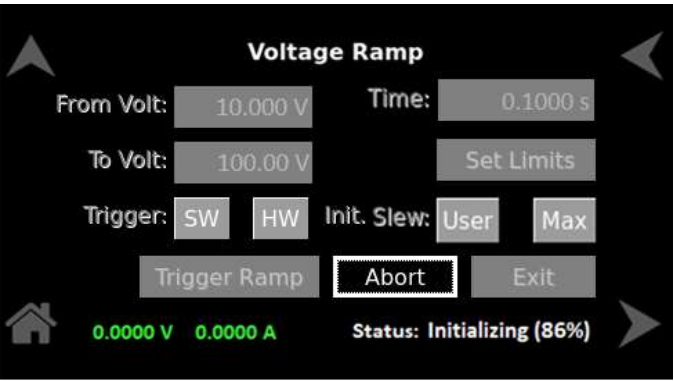

Figure 10-68. Status – Initializing
b) **Initializing** - When the system is initializing (configuring the current device voltage value to the 'From Volt' value programmed in the ramp screen), and the progress is displayed as a percentage. Refer to Figure 10-68.